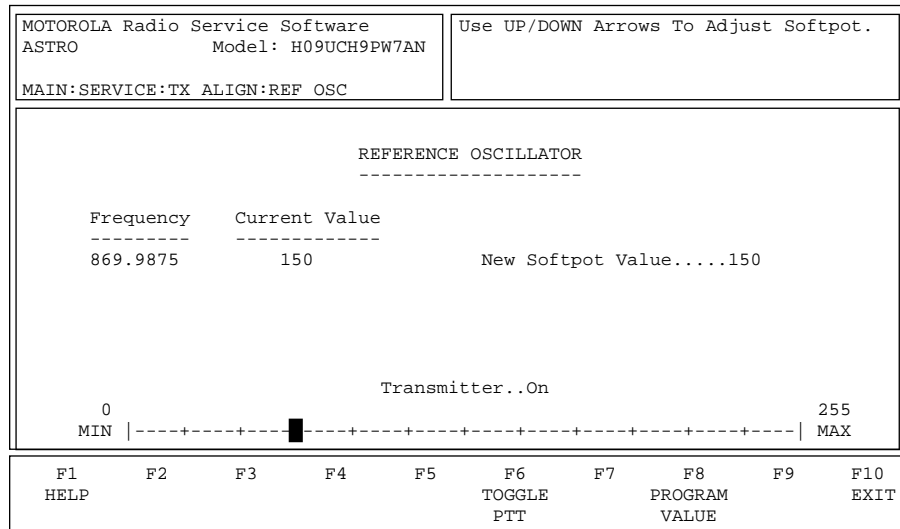

Figure 4 Reference Oscillator Alignment Screen
2. Press **B** again to select the REFERENCE OSCILLATOR alignment screen. See Figure 4.